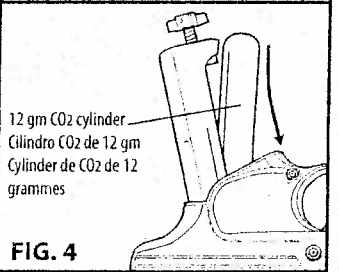

FIG. 4
4. Insert the small end of the CO₂ cylinder into the grip. Hold the gun in an inverted position with the grip pointing up and the muzzle pointing away from you as shown (Fig. 4).